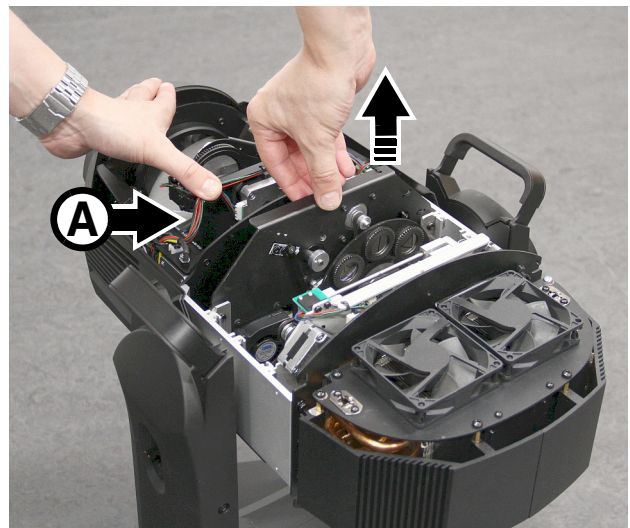

Figure 25: Removing the Gobo Wheel 3 module
9. See Figure 25. Slide the focus car towards the front of the head with one hand. With the other hand, lift the Gobo Wheel 3 module (or the framing module if you are converting from a Performance to a Profile model) out of the fixture.